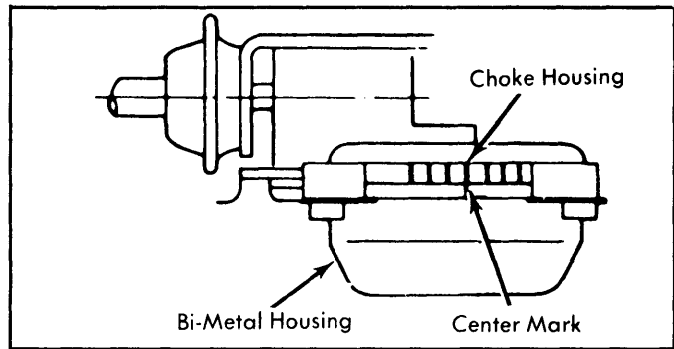

Fig. 2: Choke Bimetallic Cover Setting
- 1) Ensure choke mechanism and linkage are in proper working order. Clean or replace as necessary. Choke setting should be at center mark on choke housing. See Fig. 2.